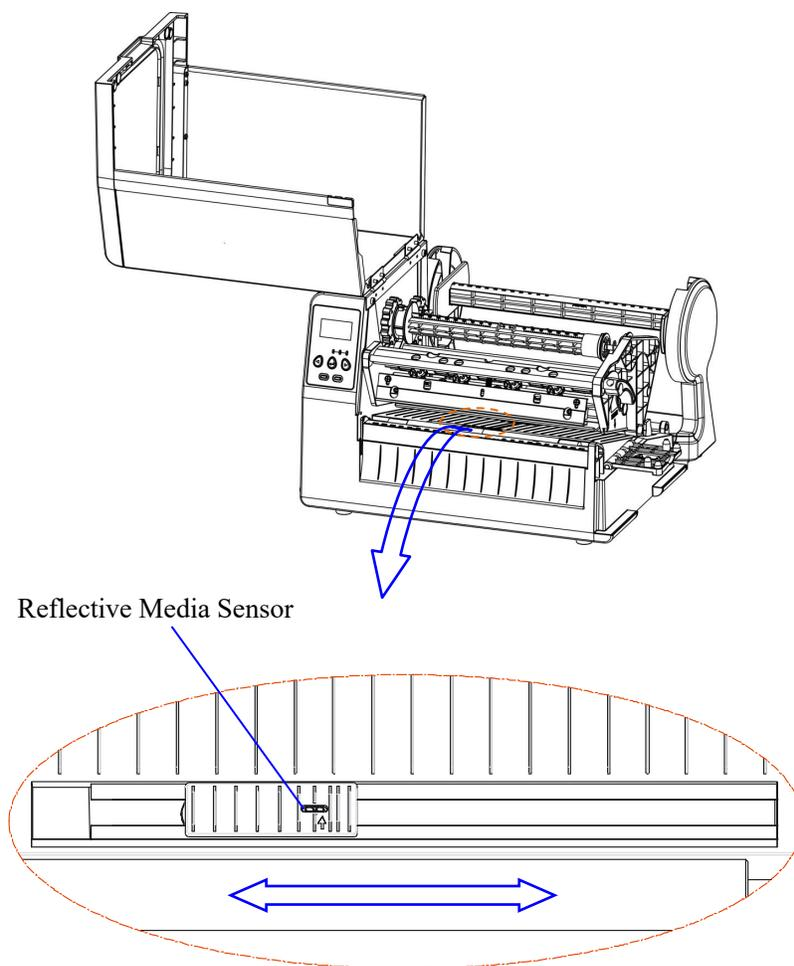

Figure 2-20
2. Lift the Printhead Module to expose the reflective media sensor (figure 2-20).